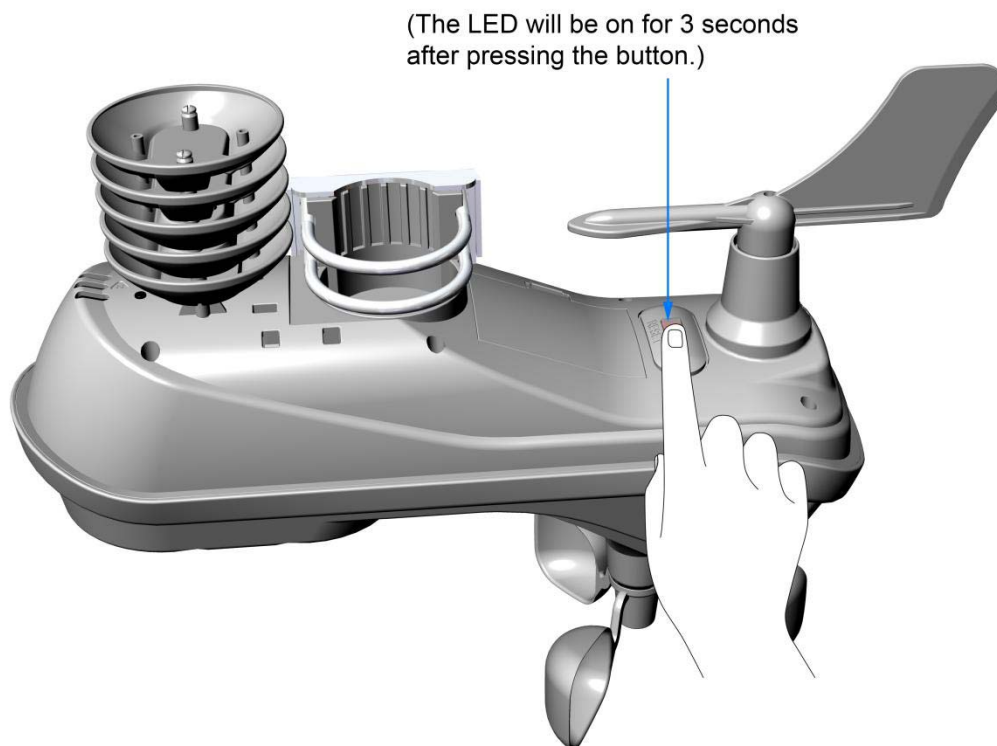

Figure 11
**Note:** If the sensor does not power up after inserting the batteries, press the reset button shown in Figure 11.